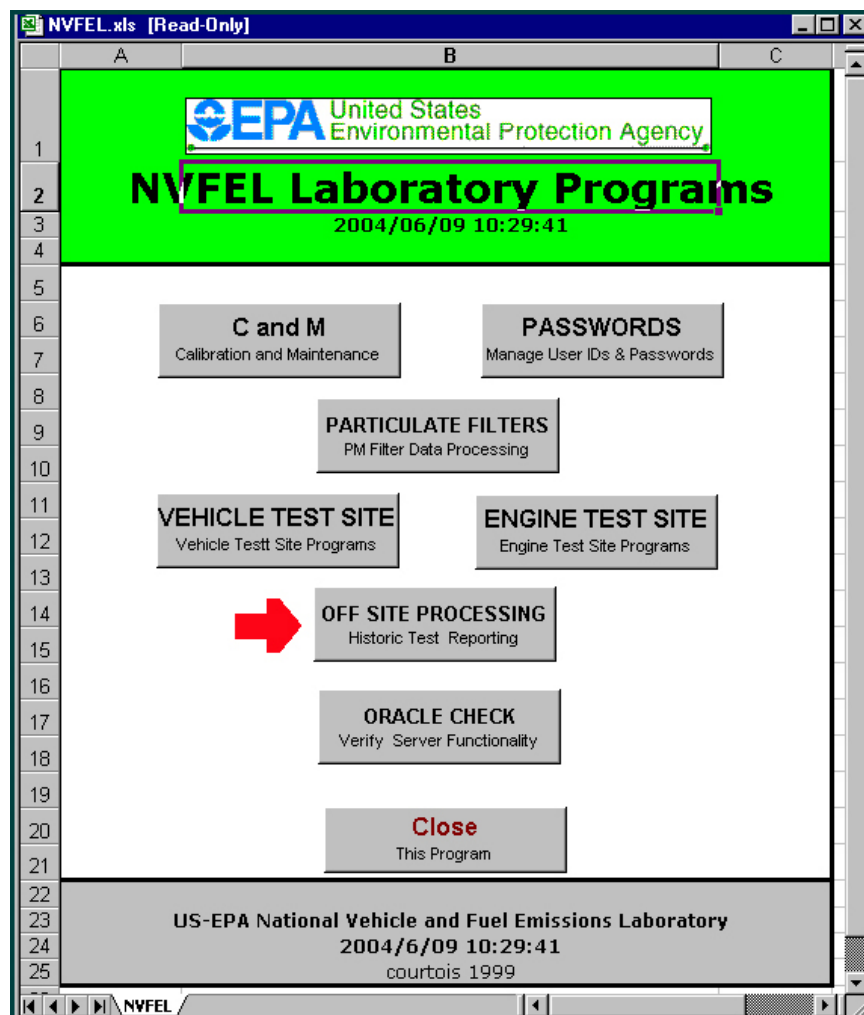

Figure 49
- 618 The "NVFEL Laboratory Programs" screen will appear. Click on the "OFF-SITE PROCESSING Historic Test Reporting" button. See the arrow in Figure 49.